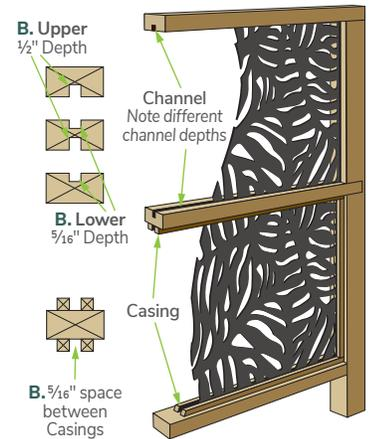

Fig. 26
2. **Channel-Mount:** Router a 5/16" wide channel in all posts and rails. See specs for different channel depths (Figs. 26, 28 & 29).
3. **Casing-Mount:** Attach 1" x 1" border casing to all posts & rails (Figs. 26, 31 & 32).